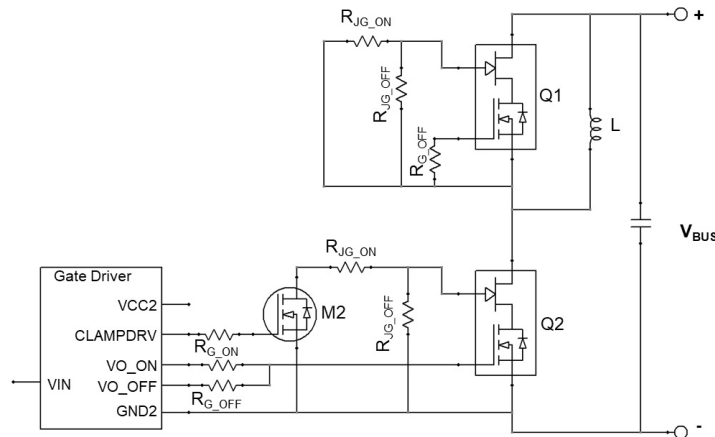

Figure 23. Schematic of the Half-bridge Mode Switching Test Circuit with ClampDRIVE Method
7. Measured with the half-bridge mode switching test circuit in Figure 23.